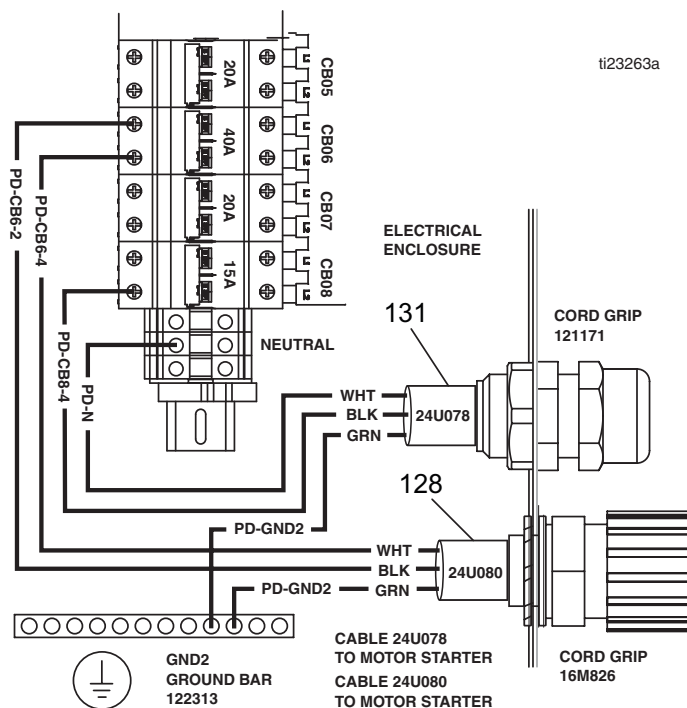

Figure 7 Electrical Enclosure
10. Connect cable (131) black wire to CB08 and white wire to Neutral. Connect the green wire to the ground bus bar, GB02 inside the electrical enclosure. See Fig. 7.
12. Route all cables along proper routes. See Cable Routing, page 11. Use wire ties (42) to hold against frames.